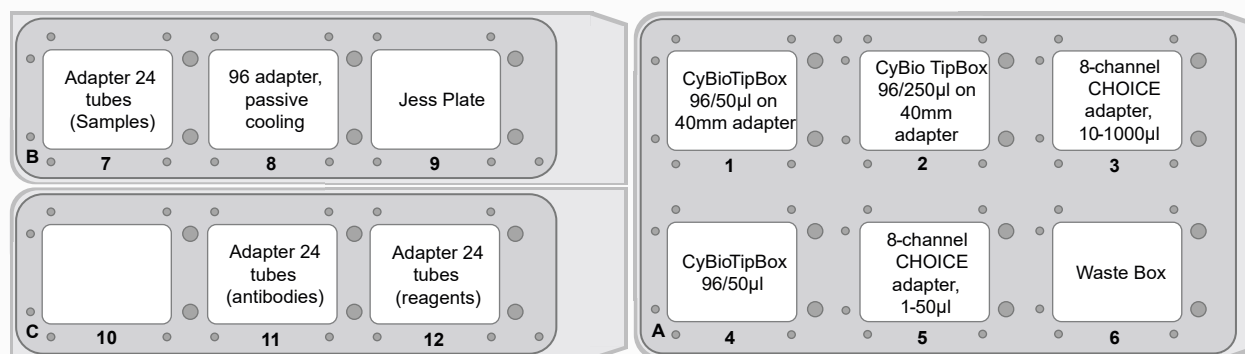

Figure 4: FeliX deck layout for Jess plate preparation.
1. Prepare the deck appropriately according to the instructions presented by the CyBio FeliX. A layout of where to place items on the deck is included in figure 4.